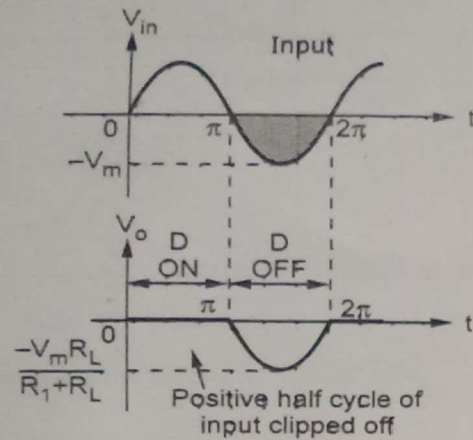

Fig. Q.43.3 Waveforms for parallel positive clipper
- The waveforms are shown in the Fig. Q.43.3.